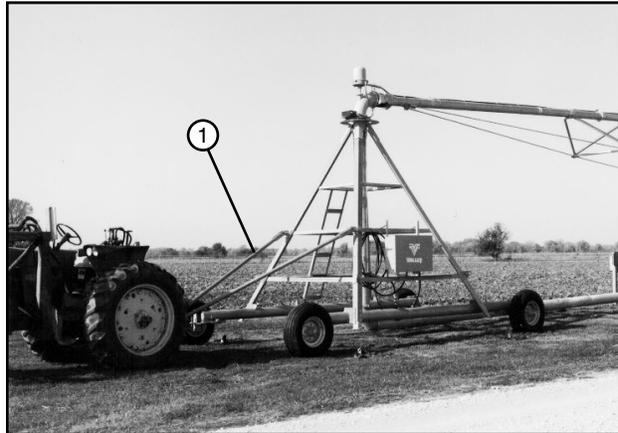

Figure 42-1 1. Tongue
6. Hook tongue to the towing unit. See figure 42-1.